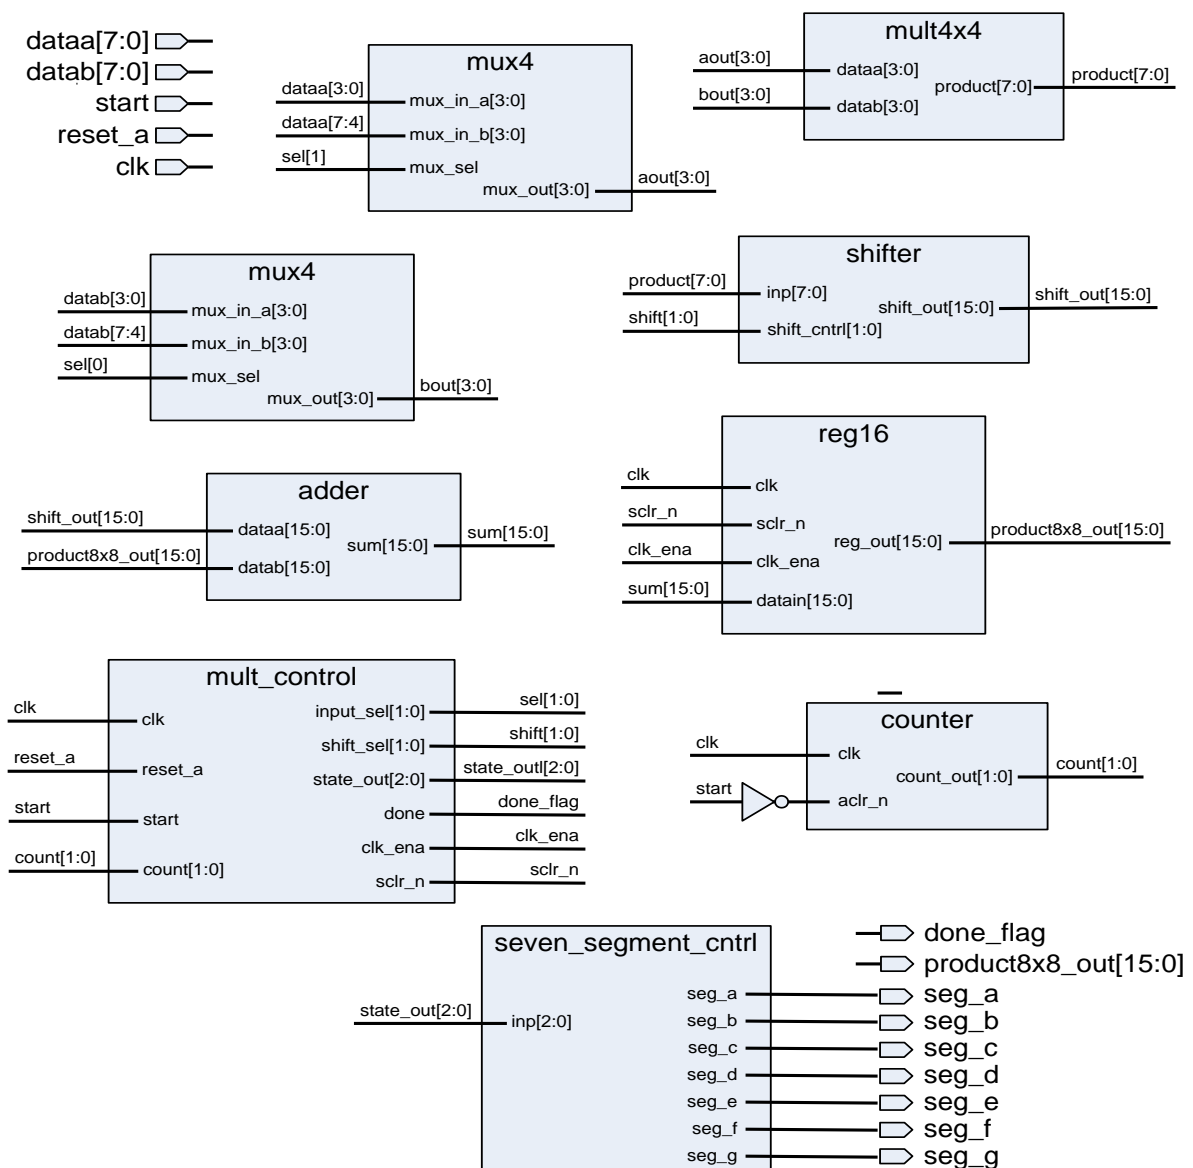

Figure 5-2 – 8 x 8 multiplier top level design block diagram
Making use of the knowledge you have gained up to this point, you must now instantiate each component in a top-level design and connect all signals as shown in Figure 5-2. Once your design compiles and simulates successfully, you have completed the labs for the Introduction to Verilog class.
- a. Declare a top-level module named **mult8x8** with the top-level ports as shown in Figure 5-2.
- b. Create instantiations for **mux4** (2 copies), **mult4x4**, **shifter**, **counter**, **mult\_control**, **reg16**, **adder**, and **seven\_segment\_cntrl** based on the connections shown in Figure 5-2. Use **u6** as the instance name for **mult\_control**. For other modules use any instance name you wish.
- c. This will require declaring new internal wires for connecting the blocks. Use the names from Figure 5-2.